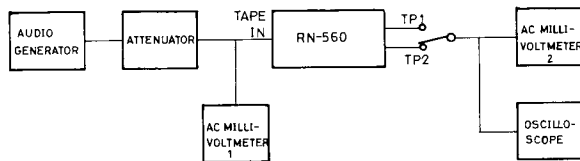

Fig. 3
1. Connect the measuring instruments as shown in Fig. 3.